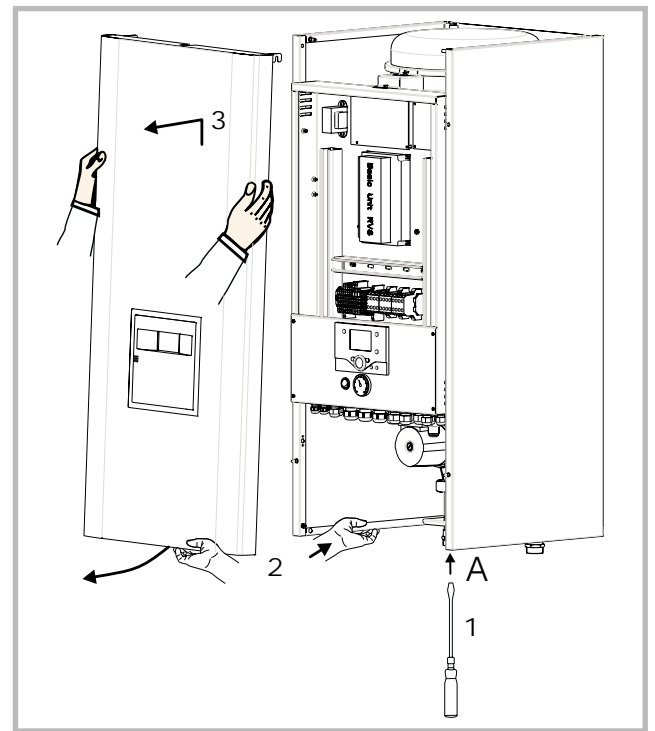

**Figure 15 - Minimum installation clearances around the hydraulic module and distances to the combustible partitions**
- To facilitate maintenance and to allow access to the various components, we recommend that you provide sufficient space all around the hydraulic module (figure 15).